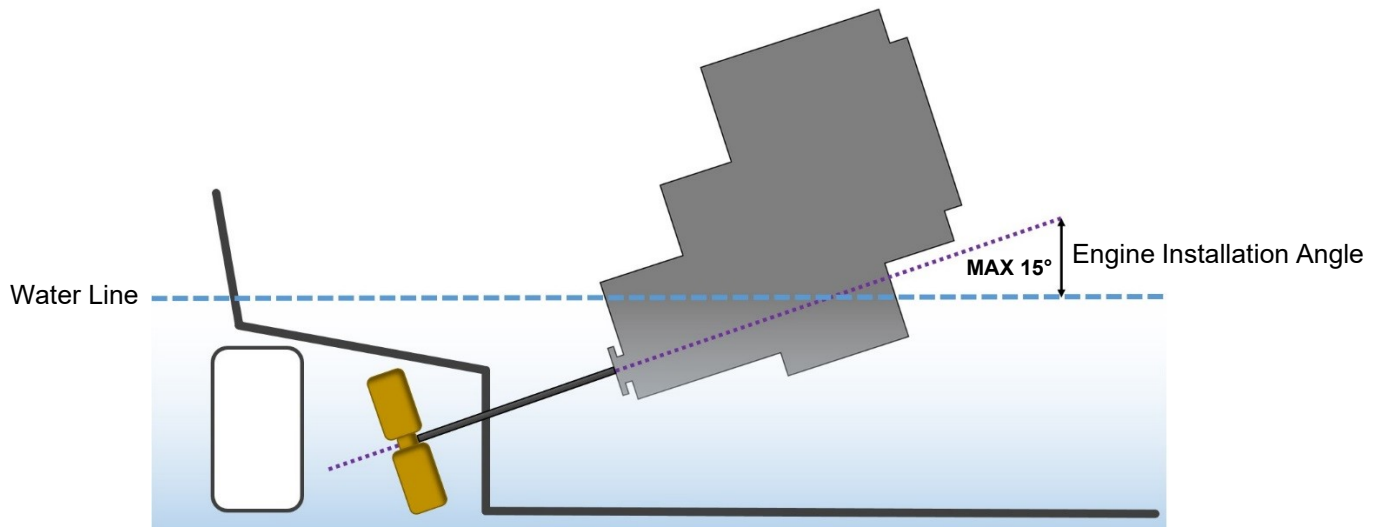

Figure 14: Maximum Engine Installation Angle
- The engine installation angle is the angle of the crankshaft centre to the water line (**Figure 14**).